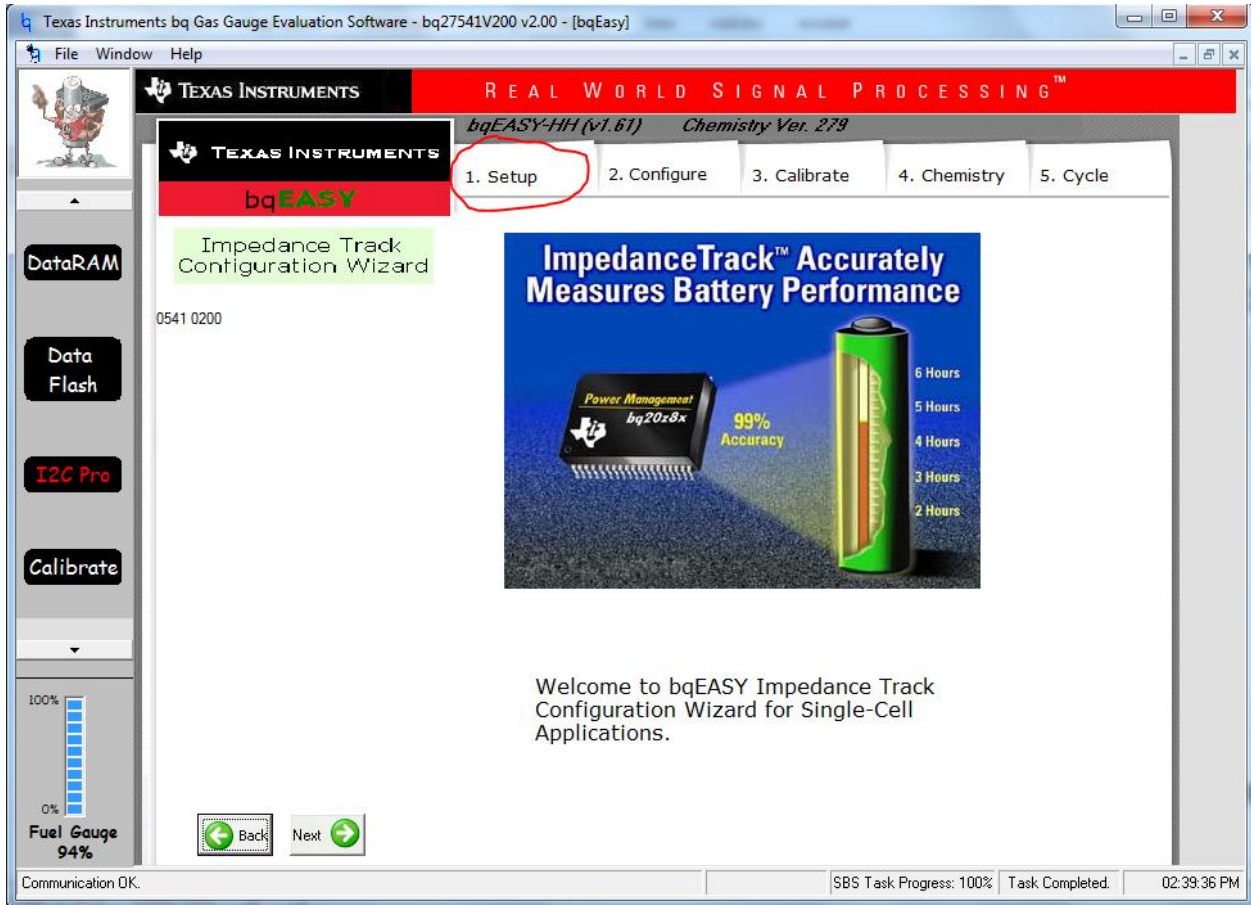

Figure 3: Setup Icon in bq Evaluation Software
4. Click on Setup icon as shown in Figure 3.